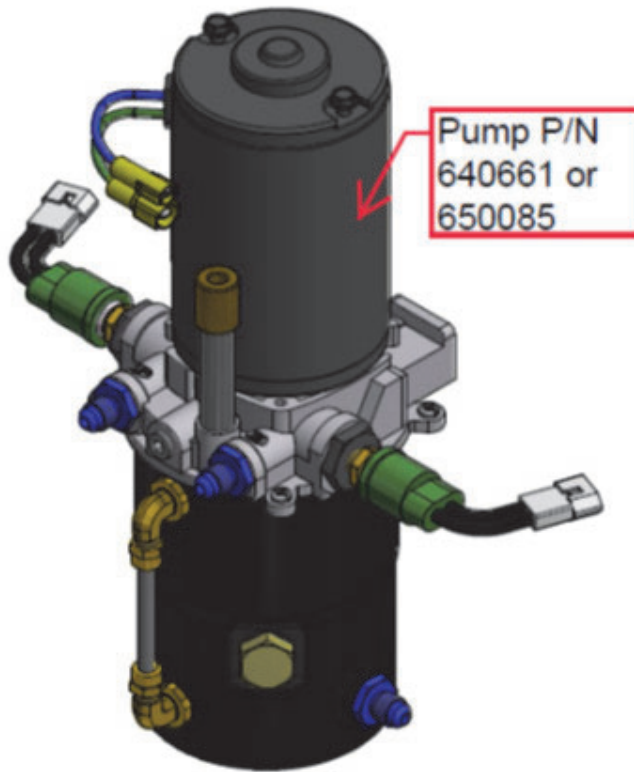

Figure 1 – Hydraulic Pump
2. See Figure 1 below. On the hydraulic pump (power pack) assembly, check for the part number of the pump.